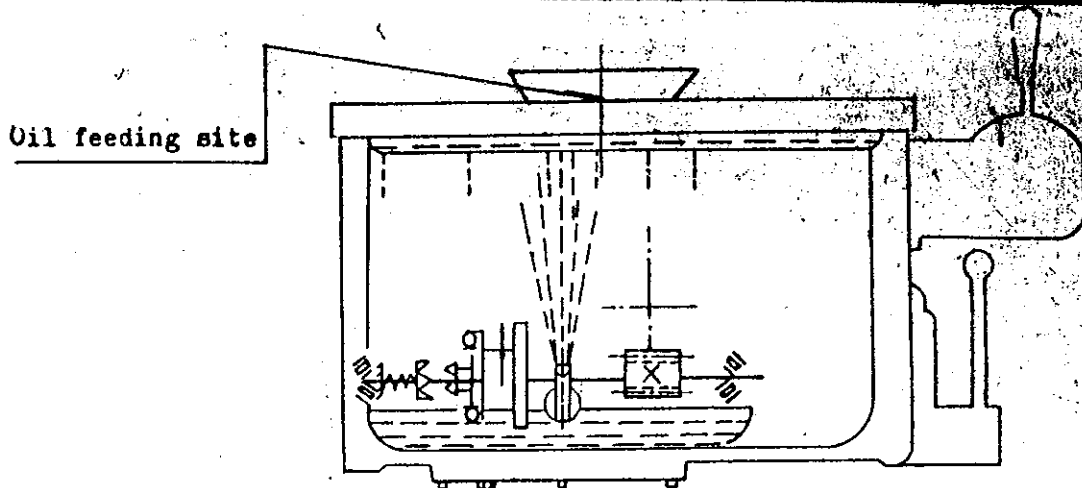

Fig.11 Lubricating diagram in apron
3. In the apron the internal sump is used to reservoir lubricant, the driving parts are splash-lubricated by the oil agitator during rapid travelling. Bearings in the apron are lubricated either by pressing machine oil through the cup on the saddle with oil gun, or drop-lubricated from the capillary woolen yarns in the top groove which reserve a part of the splashed oil. (Fig.11). The oil lever can be observed in sightglass at the front of the box.